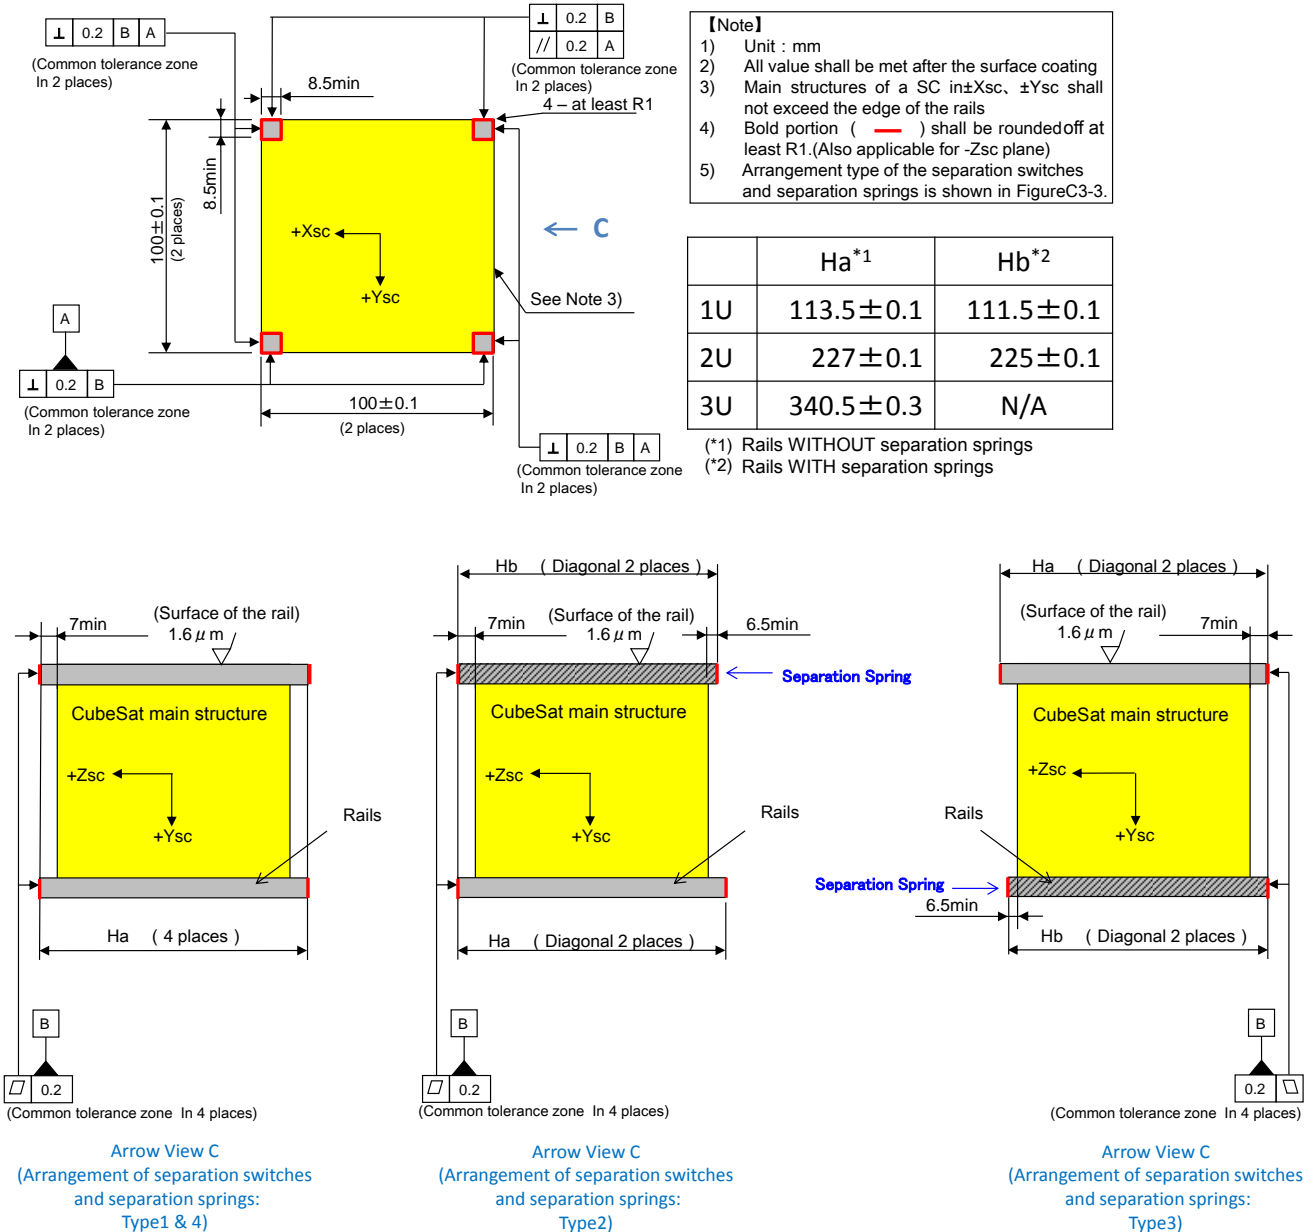

Figure C3-1 Dimensional Requirements for CubeSats
Allowable sizes of and dimensional requirements for CubeSats are shown in Table C3-1 and Figure C3-1.
- (1) A CubeSat shall have four rails on the edges parallel to the Zsc-axis so that it can slide out along the rail guides of an E-SSOD.
- (2) The dimensional requirements are defined in Figure C3-1.
- (3) Each rail shall have a square cross-section of 8.5 mm or more.
- (4) Each rail shall have a surface roughness of Ra 1.6 μm or less.
- (5) Outside edges of a rail shall be rounded off to a radius of at least 1 mm.
- (6) Both rail ends shall have a minimum surface area of 6.5 mm x 6.5 mm.
- (7) Outside surfaces along a rail shall have 75% or more contact area with a rail guide. The remaining 25% or less may have recessed areas from the rail guide. (This means that at least 85.1 mm of a rail shall have the contact area for a 1U CubeSat, at least 170.3 mm for a 2U CubeSat and at least 255.4 mm for a 3U CubeSat.)
Any rail, if devided, shall have its end edges rounded off to a radius of at least 1 mm. The common tolerance zones of such rail surfaces shall satisfy the requirements in both perpendicularity and parallelism specified in Figure C3-1.
※Refer to Figure C3-1 for Hb